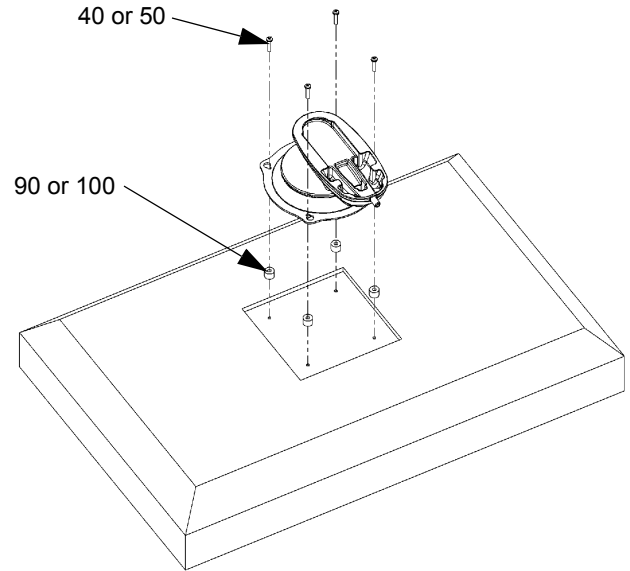

Figure 4: Attach Interface Bracket to Display
3. Install four M6 screws (40 or 50) into the four mounting holes on centris bracket.(see figure 4)